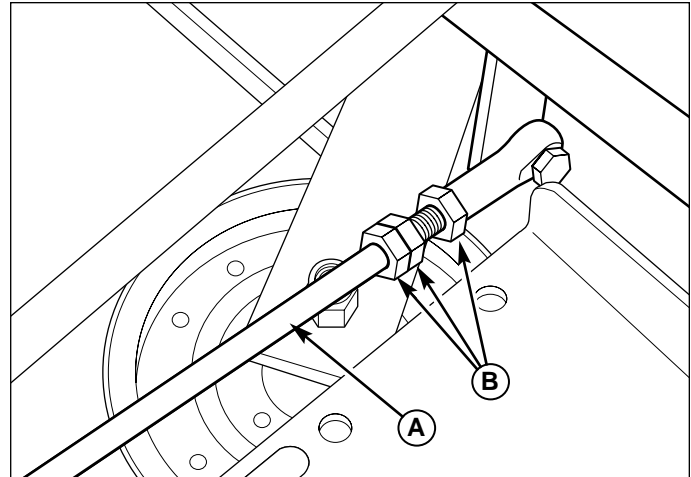

Figure 29. Neutral Adjustment
2. There are three (3) nuts on the linkage rod. The first two are to be used together to turn the rod and the third (towards the front of the machine) is used to lock the rod in place. Loosen the jam nut that locks against the clevis (B, Figure 29) and turn the linkage rod (A, Figure 29) to adjust. If the machine creeps forward, turn the rod CLOCKWISE (while standing at the rear of the machine, facing forward), if the machine creeps backward, turn the rod COUNTER-CLOCKWISE.
3. Lock the jam nut (B, Figure 29) against the clevis when neutral is achieved.